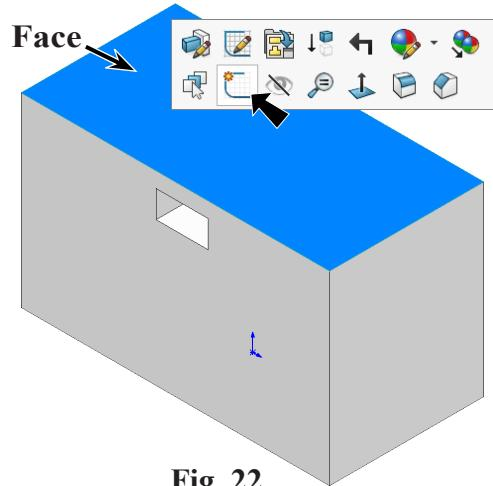
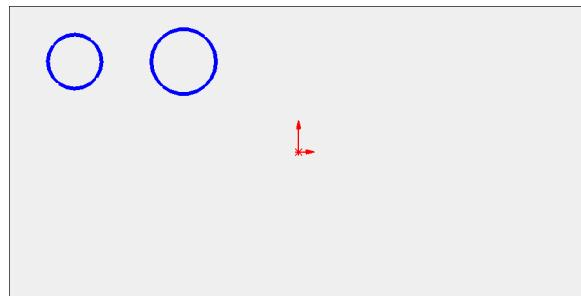

Fig. 22
Fig. 23
Step 1. Click the **top face** and click Sketch  on the context toolbar, Fig. 22.
Step 3. Click **Circle**  (S) on the Sketch toolbar.
Step 4. Sketch **two circles in top left quadrant**, Fig. 23.